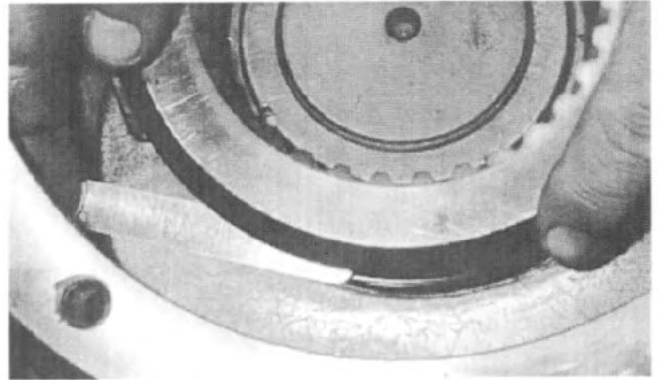

Fig. 86
25. Manually align the fixed and sliding clutch gears. Apply air pressure (100 psi) to the front drive declutch shift cylinder. Check with feeler gages that there is a minimum of **0.005" clearance** between both sides of the shift fork and the sliding clutch gear groove. If this is not met, the air shift cylinder must be disassembled and an additional plastic washer (0.030" thick) must be installed. *See Fig. 86.*